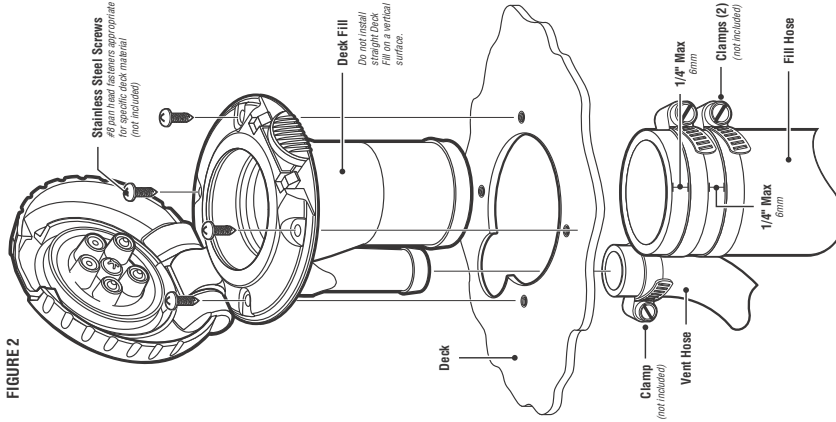

FIGURE 2
- "Dry Fit" the Deck Fill neck into hole. (Figure 2)
- Attach and clamp 1-1/2" (38mm) fill hose using two (2) clamps. Use corrosion-resistant metallic clamps with nominal band widths of at least 1/2" (12mm). The first clamp should be 1/4" (6mm) from the end of the hose. The second hose clamp should be 1/4" (6mm) from the end of the hose. The second hose clamp should be 1/4" (6mm) from the end of the hose. The second hose clamp should be 1/4" (6mm) from the end of the hose.
- Attach and clamp 5/8" (16mm) maximum vent hose using at least one (1) corrosion-resistant metallic clamp with nominal band width of at least 5/16" (8mm). Torque hose clamp to 38 +/- 4 in-lb.
- Attach and clamp 5/8" vent hose using one (1) clamp. Torque hose clamp to 38 +/- 4 in-lb. Ensure 5/8" vent hose connects with 5/8" port on 99DF Series vent valves.